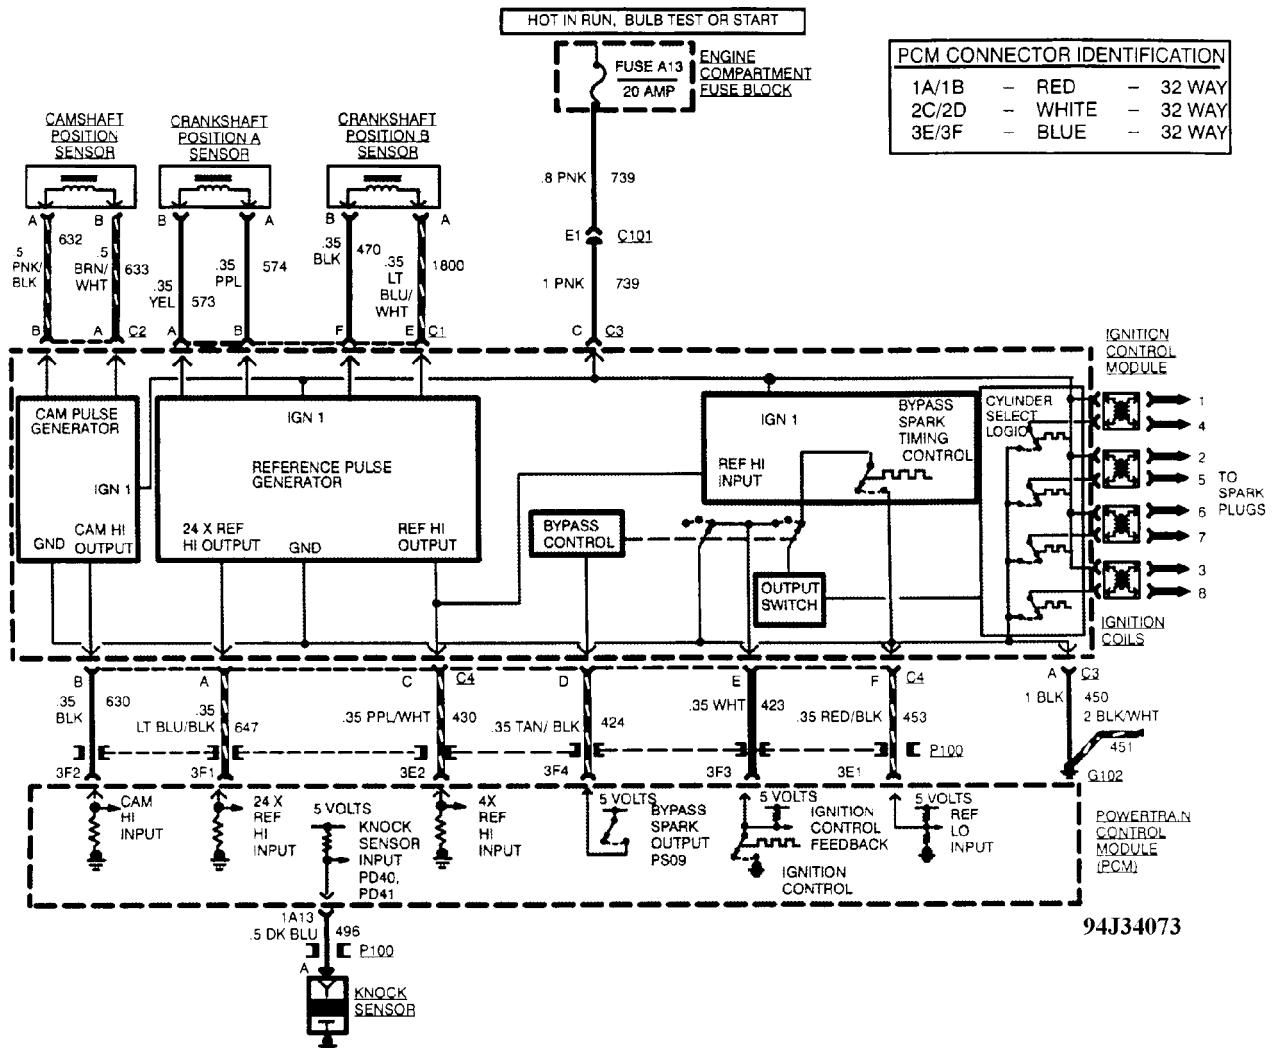

Fig. 4: 4.6L (VIN Y & 9) Ignition System (DeVilleville & Seville)
2) Disconnect Ignition Control Module (ICM) C3 connector. Using DVOM, backprobe circuit No. 739 (Pink wire) to ICM terminal "C". See Fig. 4. If less than battery voltage is present, check circuit No. 739 (Pink wire) or fuse block for an open circuit. If battery voltage is present, see Code P012 in G - TESTS W/CODES article in the ENGINE PERFORMANCE section.